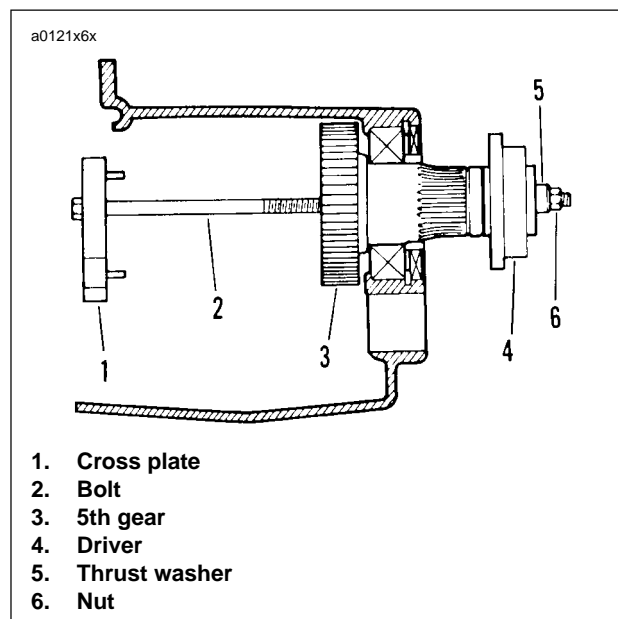

Figure 6-65. Removing Main Drive Gear
5. See Figure 6-65. Assemble MAIN DRIVE GEAR REMOVER AND INSTALLER (Part No. HD-35316A) with CROSS PLATE (Part No. B-45847).
6. Insert bolt (2) through cross plate (1) and 5th gear (3).